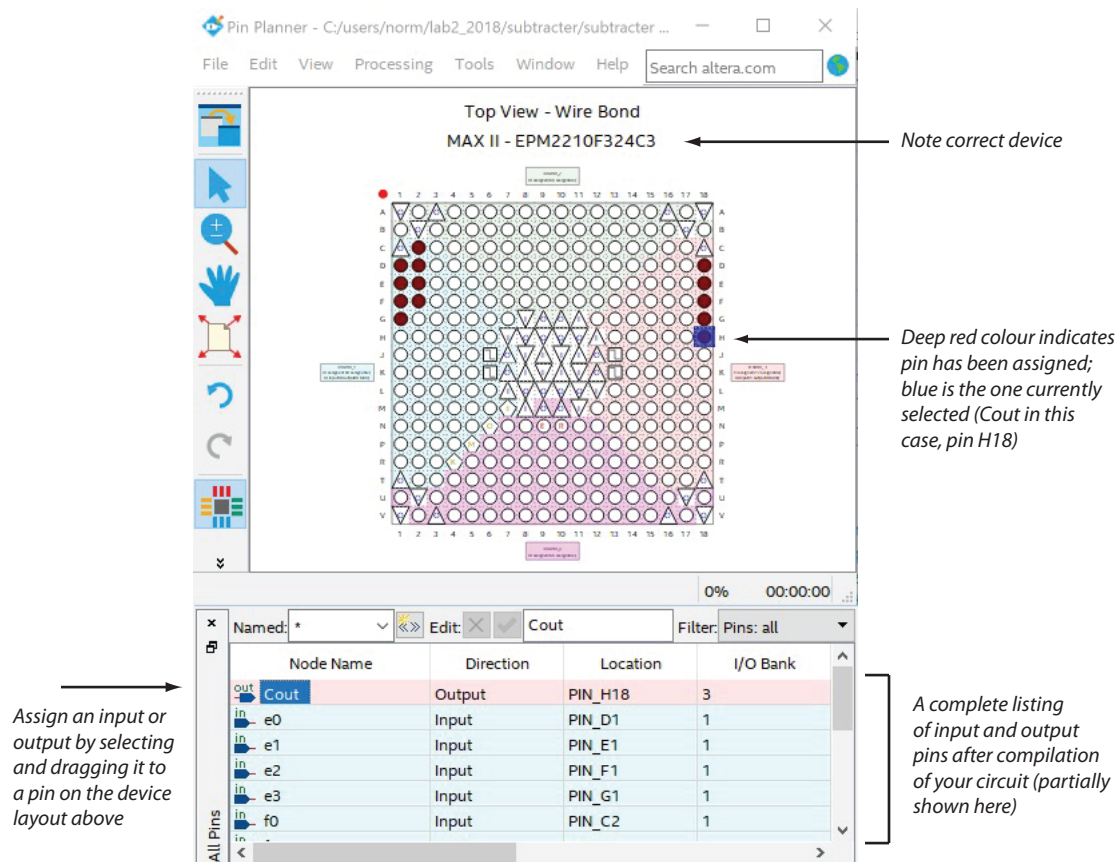

Fig. 13. Typical Pin Planner view. Pins on the CPLD are arranged as a matrix; assigned pins are shown highlighted.
Start the *Quartus* compiler by selecting **Processing** → **Start Compilation** from the menu. Compilation then proceeds through various phases and should finish with several harmless warnings (ignore these). You may follow the compiler’s progress in the “Tasks” pane on the left side of the window (takes about a minute or two). Press OK. This compilation step is necessary so that *Quartus* knows what inputs and outputs you have specified in your schematic. Pin assignments can now be established easily using the “Pin Planner,” for which a sample screenshot is shown in Fig. 13, and described below.
- The final input bit **Cin** will be used to select either addition or subtraction. Drag it to pin A11 (**Cin** is not shown in the sample screenshot of Fig. 13).